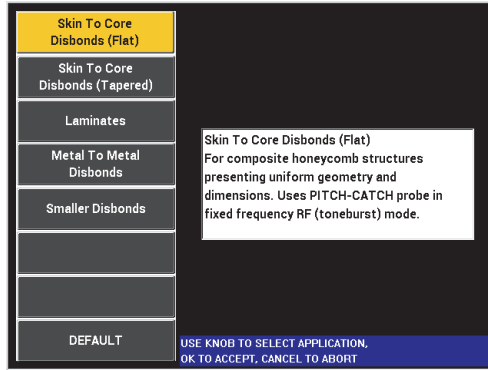
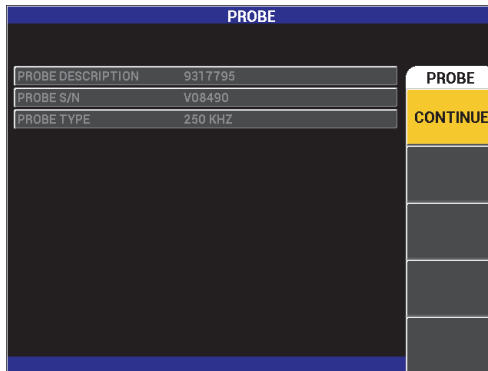
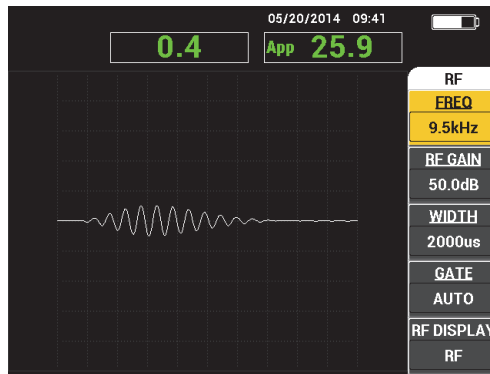

Figure 3-2 Application choices on the quick-setup menu
Figure 3-3 The PowerLink recognition screen
Figure 3-4 The main inspection screen
- If no probe is connected or a probe that is not a PowerLink type of probe is connected, the first screen displayed by the BondMaster 600 software is the application quick-setup menu (see Figure 3-2 on page 60). Choose from among the basic applications on this menu to automatically configure the appropriate instruments settings.
- If a PowerLink probe is connected, the BondMaster 600 starts up in the PowerLink recognition screen (see Figure 3-3 on page 60), which lets you automatically set up the instrument for that type of probe.
- ◆ If a PowerLink probe is connected and the PowerLink recognition screen is displayed (see Figure 3-3 on page 60), load the program stored in the PowerLink probe, and automatically set up the BondMaster 600, by pressing the A key.
After the initial steps are completed through the quick-setup menu or PowerLink menu, the main inspection screen is displayed (see Figure 3-4 on page 62).
Figure 3-4 on page 62 contains a typical example of the main inspection screen. The screen's appearance may vary, depending on the application that is chosen or the PowerLink application (program) that is loaded (see Figure 3-2 on page 60 and Figure 3-3 on page 60).